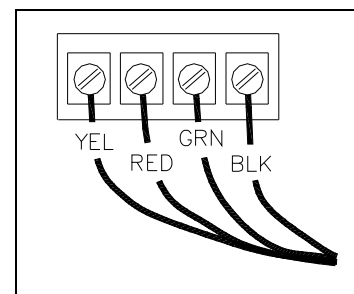

Figure 7. PCBA Connection
1. Remove the four front panel screws using a standard Phillips screwdriver, and remove the front panel assembly and set aside. Disconnect the 7-foot half-modular telephone cord from the PCBA terminal strip (if connected). See Figure 7.
6. Connect the telephone cord to the PCBA terminal strip. See Figure 7.
8. Connect the telephone cord to the PCBA terminal strip. See Figure 7 for details.